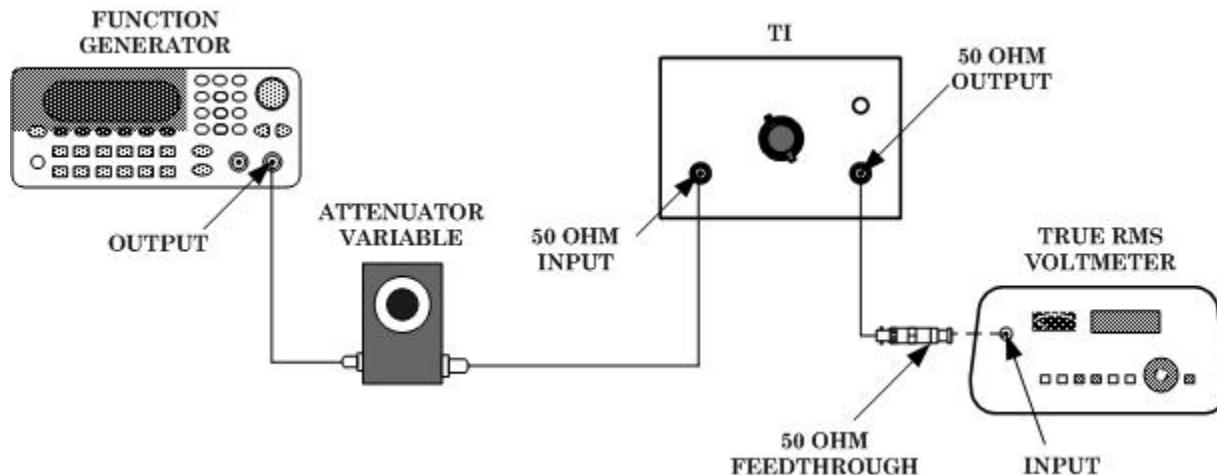

Figure 2. Low frequency response setup.
- (1) Connect equipment as shown in figure 2.
- (2) Set step attenuator **dB** switch to **40**.
- (3) Set function generator for an output frequency of 500 kHz and adjust function generator output amplitude for true rms voltmeter indication of 0.3 V rms.